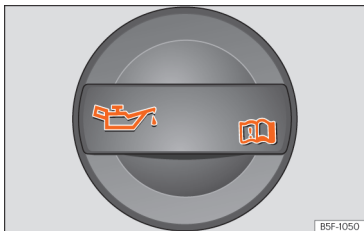

Fig. 283 In the engine compartment: Engine oil filler cap.
- Unscrew cap from engine oil filler opening » **Fig. 283**.